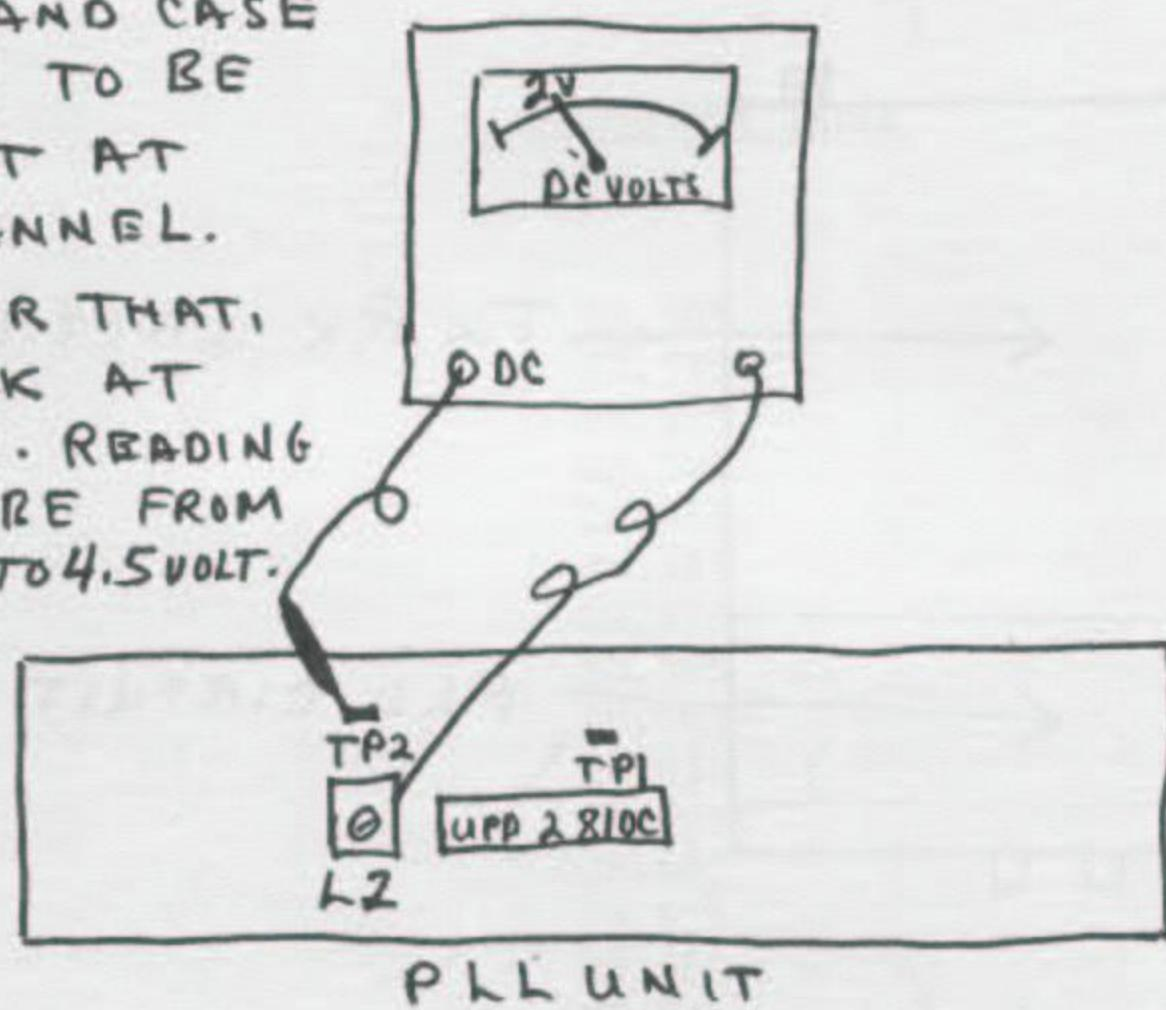

FIG 3 (TUNE UP PLL UNIT) NO.1
1. Prepare the tester and connect it between test point 2 (TP2) and any minus (-) ground (earth). Next, set to channel 1 position - the tester range should be 2 - 10 Volts (DC). "L2" should be tuned up as the tester indicates 2 Volts. As you are tuning up the coil, the channels should be checked individually 1 thru 40 so that as the coil is being tuned, the tester will show a balanced change from 2 Volts to about 4.5 Volts (DC) on each of the channels. (see figure 3).
1.1 Re-tune the coils, L208 and L209 and turn VR10 shown as fig. 3. Then you get 5 to 6W.
Turn VR1 shown as fig. 3.